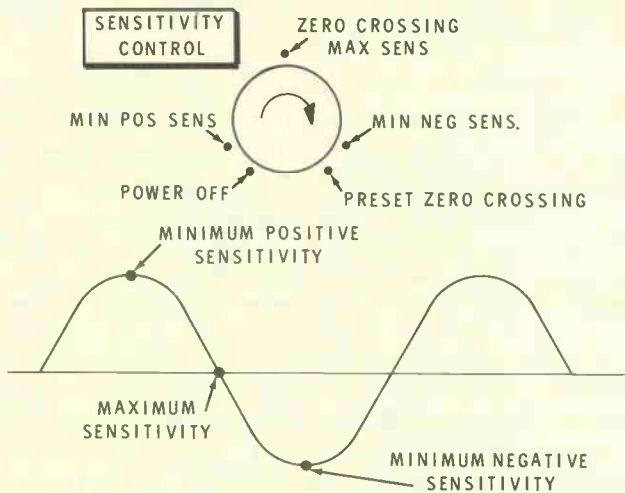

Figure 3
As shown in Figure 3, maximum sensitivity is either in the center of the control rotation or in the preset position (CW).
This Frequency Counter consists of an input section, control circuits, display, auto-ranging circuits, and a power supply. Refer to the Block Diagram (Figure 3) and the Schematic for interrelation of these circuits as described in the paragraphs that follow.